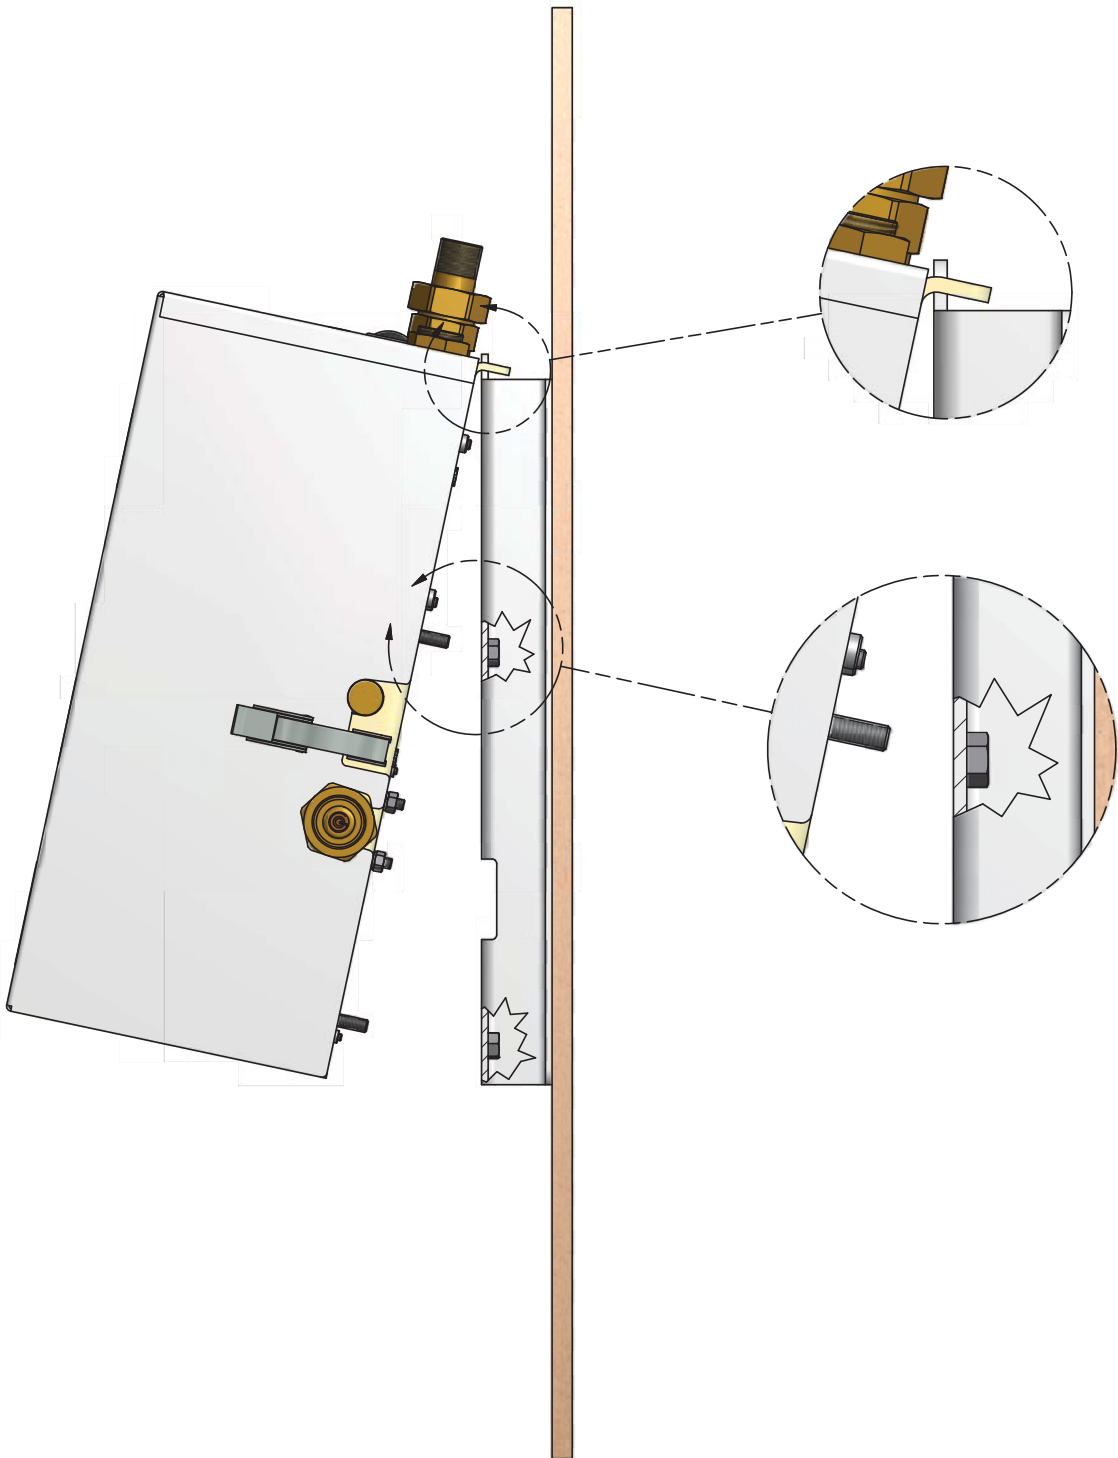

Figure 3
7. Hang manifold control module on tab of mounting bracket (Figure 3). Using M8 hex bolt, attach manifold to wall bracket through slots in black plate (4 places).
9. Hang manifold control module on tab of mounting bracket (Figure 3). Using M8 hex bolt, attach manifold to wall bracket through slots in black plate (4 places).